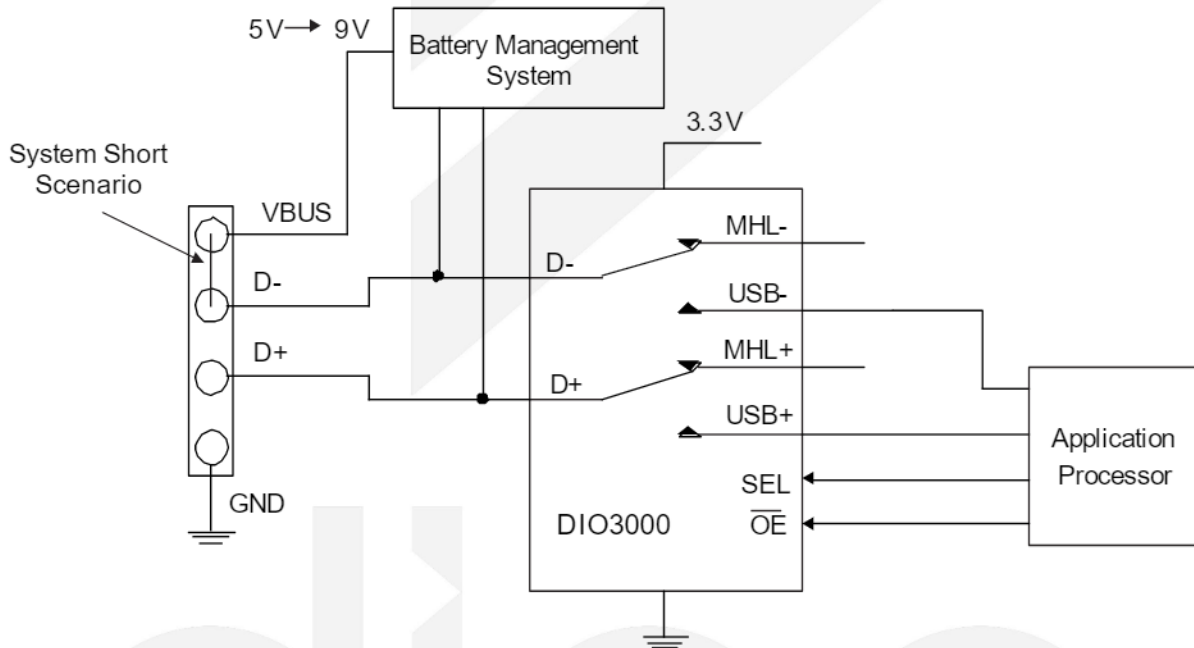

Figure 13. Potential VBUS to D-Short Example
In Figure 13, the system has an application processor (AP) which cannot survive 9V on the USB data lines. The following procedure protects the system and the DIO3000.